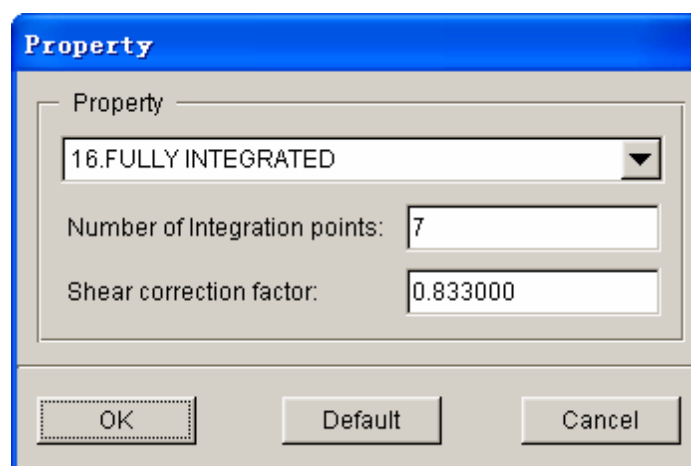

Figure 6.10 Property dialog box
3. Define property. Click **NIP=5** button. A dialog box (as shown Figure 6.10) is popped up. In the drop-down menu, select the fully integrated element recommended in the LS-DYNA springback analysis, and set the Number of Integration points as 7, then click **OK** to exit the dialog.